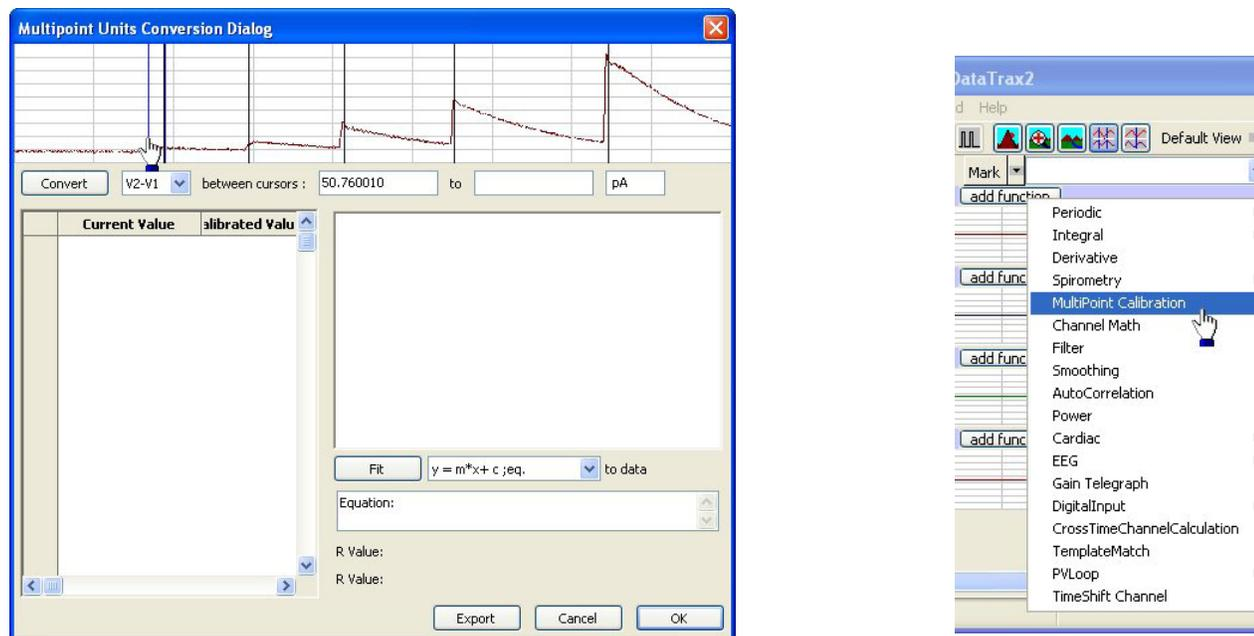

Fig. 45—Multipoint Units Conversion dialog box
- Click the **Add Function** button that is located above the channel to be calibrated, and choose **Multipoint Calibration (Right)**. The **Multipoint Units Conversion** dialog box appears (**Fig. 45**). The data points of interest include the “zero” point and the peaks after each injection of SNAP.
Figure 45 shows the raw data recording of NO on the **TBR4100** in channel 1 and the calibrated comparison beneath it. If desired, the graph can be filtered or smoothed.